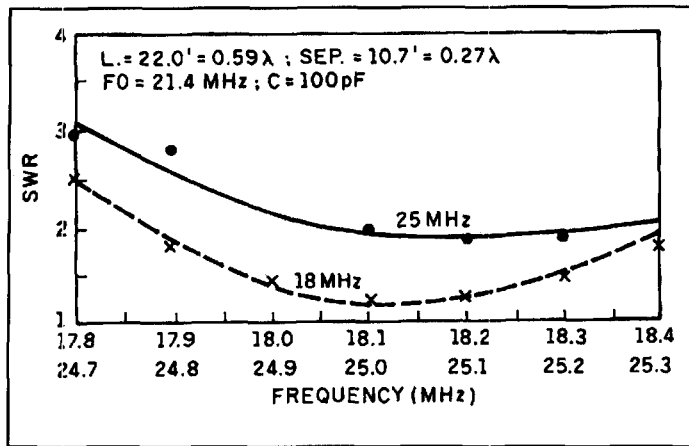

Figure 1. SWR as a function of frequency for antenna A (see Table 1).
My antennas were mounted horizontally about 20 feet above ground. They were fed with about 30 feet of RG-58/U foam coax. A few feet of coax at the antenna were coiled up to act as a balun. I haven't adjusted the SWR data plotted in **Figures 1** through **6** for the effects of the cable, but the corrections are small due to the shortness of the line. At 28 MHz, a SWR of 2 at the input of the line corresponds to 2.22 at the antenna; one of 2.5 at the input corresponds to 2.9 at the antenna. At lower frequencies, the effects are smaller.
**Antennas A and B.** See Figures 1 and 2 for plots of the SWRs versus frequency. The total length was chosen to be the geometrical average of the lengths of half-wave dipoles for the design frequencies of 18.118 and 24.94 MHz.